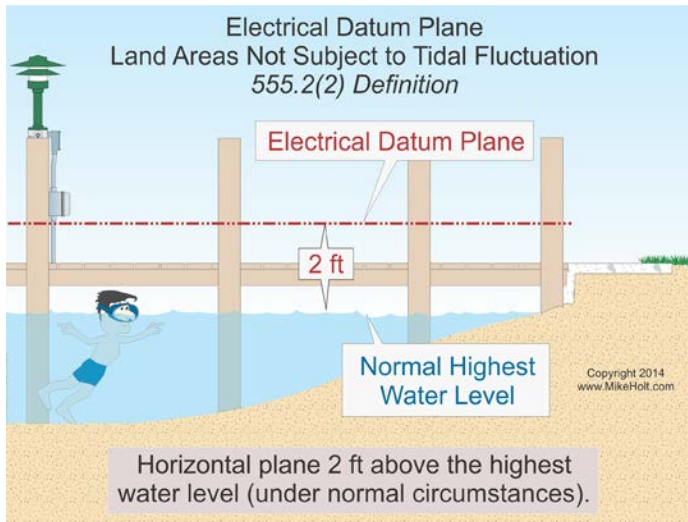

Figure 555-3
**(2) Land Areas Not Subject to Tidal Fluctuation.** The horizontal plane 2 ft above the highest water level that occurs under normal circumstances. Figure 555-3